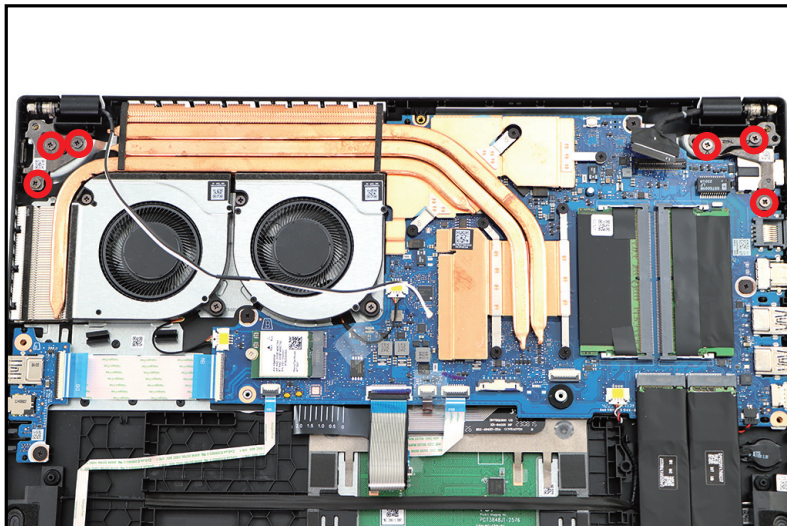

Figure 1-27. LCD Module Removal
4. Remove six (6) screws securing the LCD hinges (Figure 1-27).